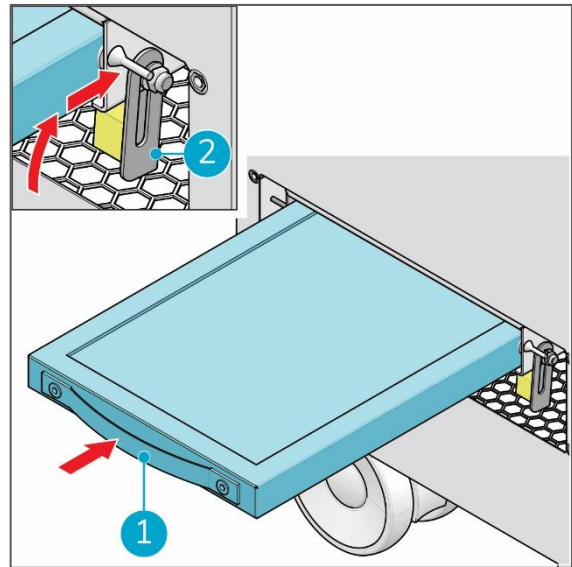

Figure 19
7. Carefully slide the new filter (Figure 19, pos. 1) into the compartment.
8. Pull the filter lock (Figure 19, pos. 2) upward and push it forward into the compartment to lock the filter.